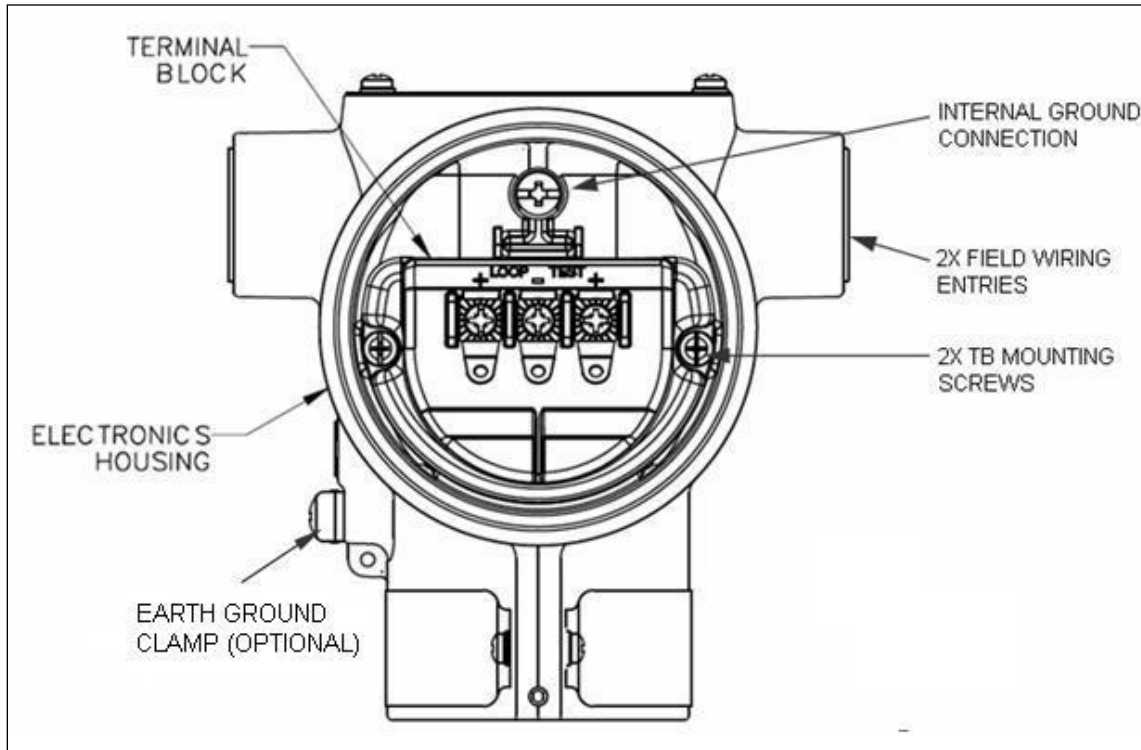

Figure 55 – ST 700 Basic Transmitter - 3-Screw Terminal Board and Grounding Screw
Loop wiring is connected to the transmitter by simply attaching the positive (+) and negative (-) loop wires to the positive (+) and negative (-) terminals on the transmitter terminal block in the electronics housing shown in Figure 55.
As shown in Figure 55 each transmitter has an internal terminal to connect it to earth ground. Optionally, a ground terminal can be added to the outside of the electronics housing. While it is not necessary to ground the transmitter for proper operation, doing so tends to minimize the possible effects of noise on the output signal and affords protection against lightning and static discharge. An optional lightning terminal block can be installed in place of the non-lightning terminal block for transmitters that will be installed in an area that is highly susceptible to lightning strikes.
7. See Figure 55 above, for parts locations. Loosen the end cap lock using a 1.5mm Allen wrench.